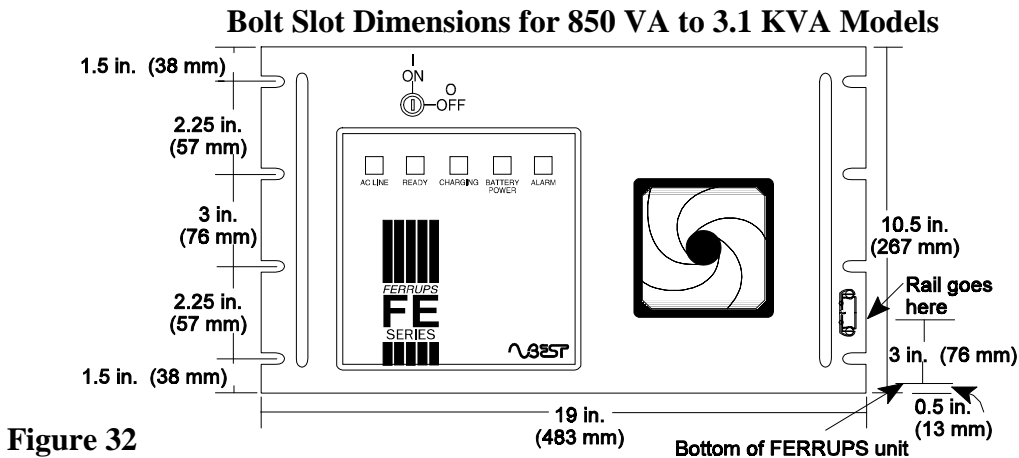

Figure 32
- ▶ To make sure that the bolt slots on the front panel of your FERRUPS will line up with holes on the rack, use the slot measurements in Figure 32 or 33 below to decide where to place the outer rails in the rack.